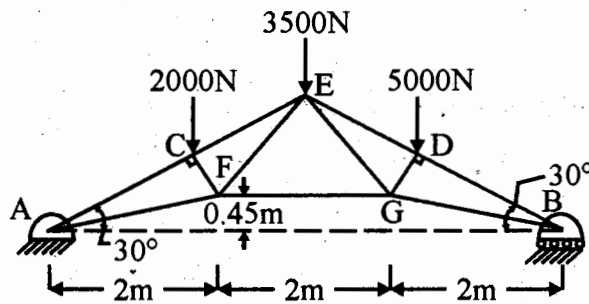

Fig. 6
- (a) The roof truss shown in Fig. 6 is supported at A and B and carries vertical loads at each of the upper chord points. Using the method of sections determine the forces in the member CE and FG of truss.